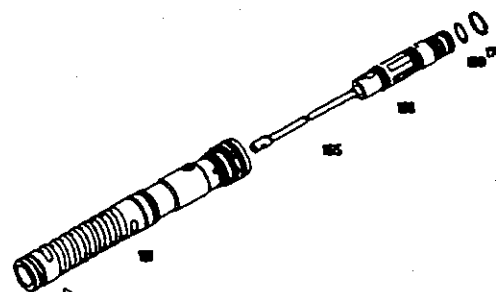

Fig.23
5.1 Fit O-ring (169) and sealing ring (170). Install torsion bar (165) with valve slide (168) as marked during disassembly. Press in pin (160) and caulk to the same depth and form as before (**Fig.23**).